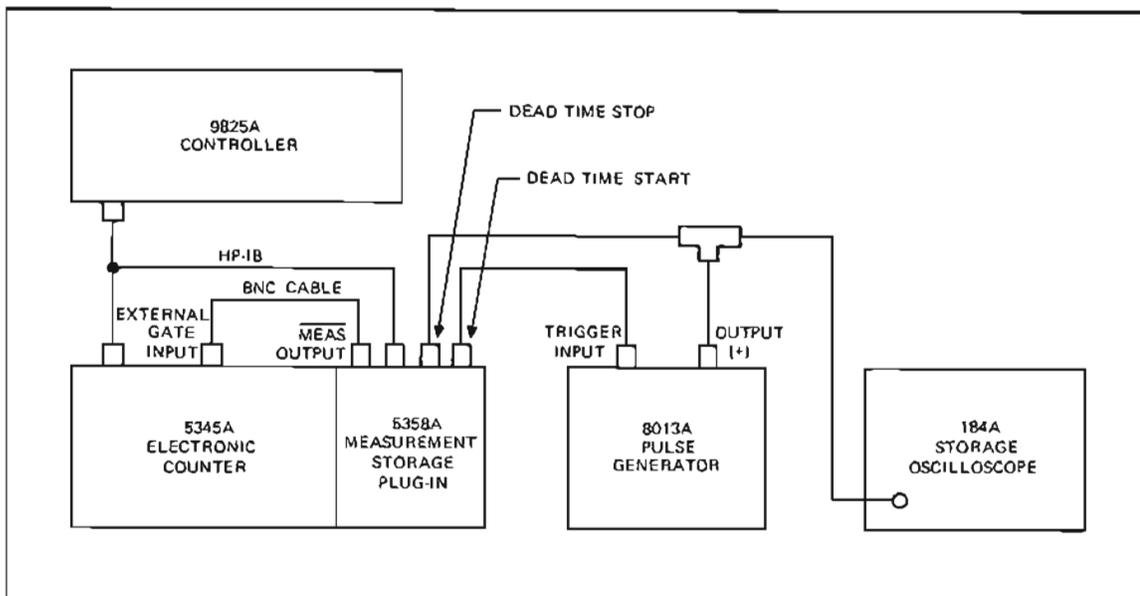

Figure 4-6. Dead Time Test Setup
- Refer to *Figure 4-6* and proceed as follows.